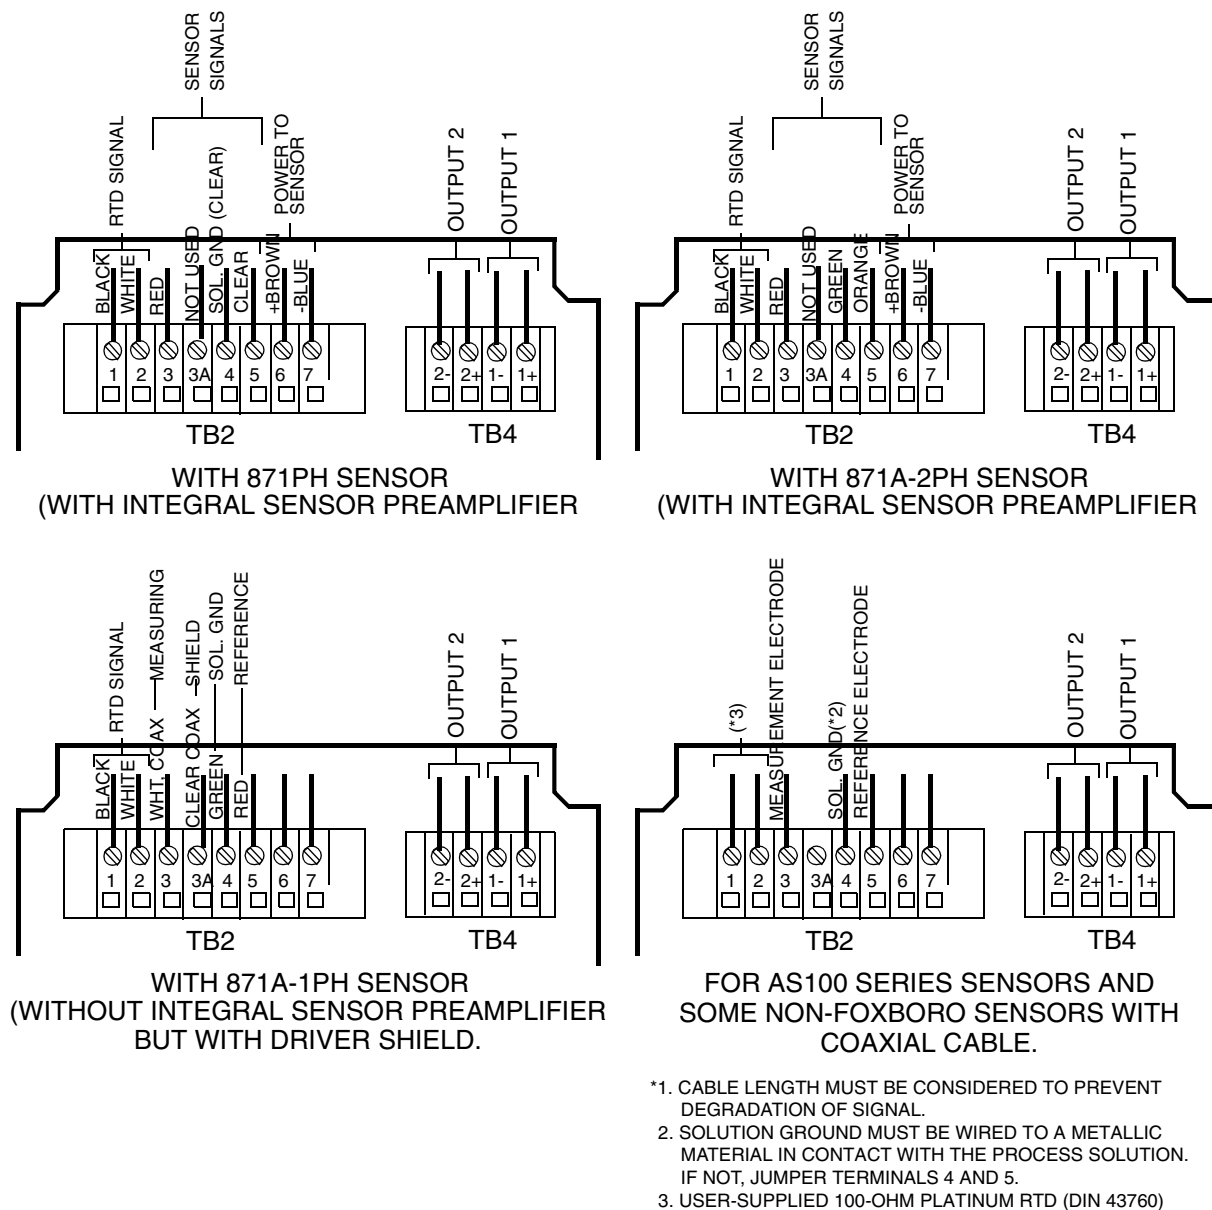

Figure 13. Metal Enclosure Rear Panel Wiring for Sensor
4. Connect sensor wires to Analyzer terminal block TB2 as shown in Figure 13.